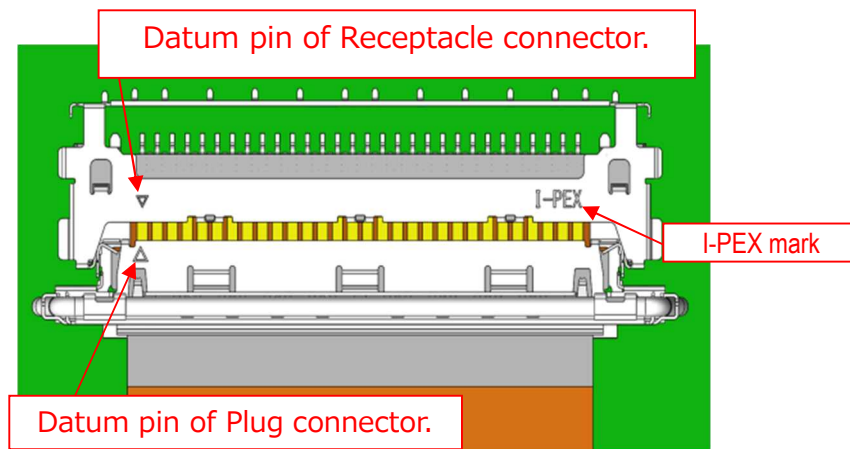

Fig 3.
- ① As shown in Fig.3, please set so that the datum pin mark of Plug connector and Receptacle connector are matched.